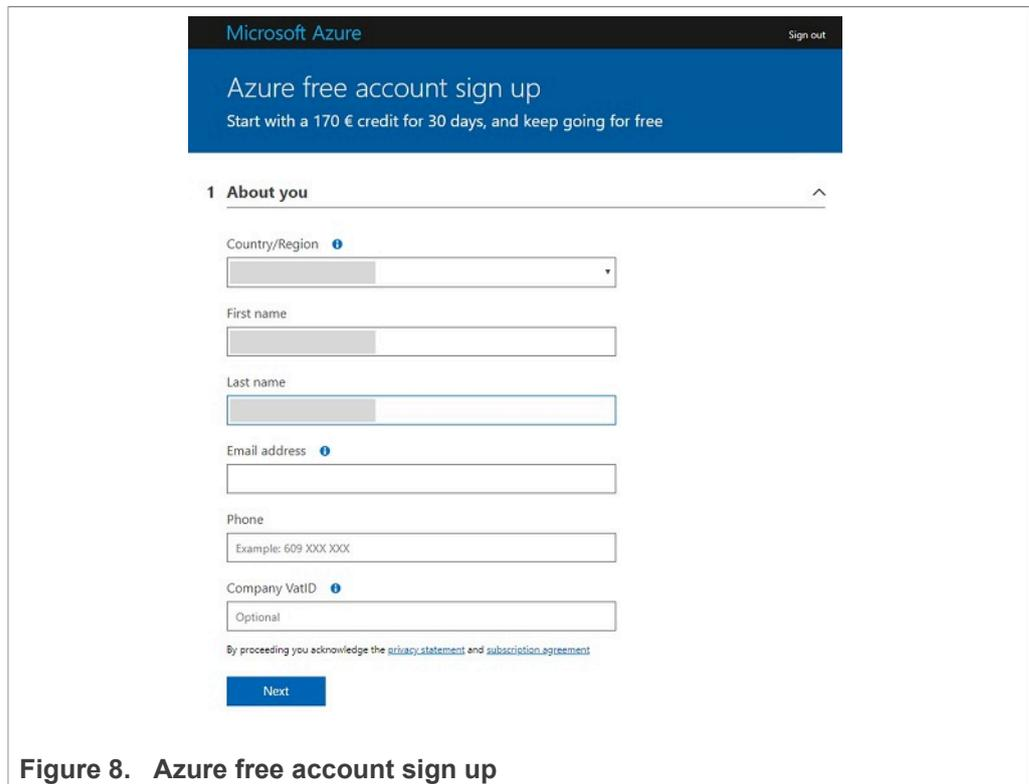

Figure 8. Azure free account sign up
2. If you already have an account with MicrosoftOffice 365, you will be prompted to log in. When you log in, some of your details may already be there as shown in Figure 8: